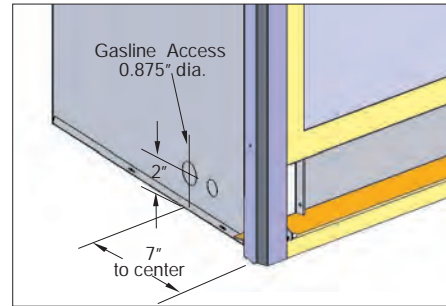

Figure 5. Gas line access.
- See *Figure 5* below for location of gas line access.